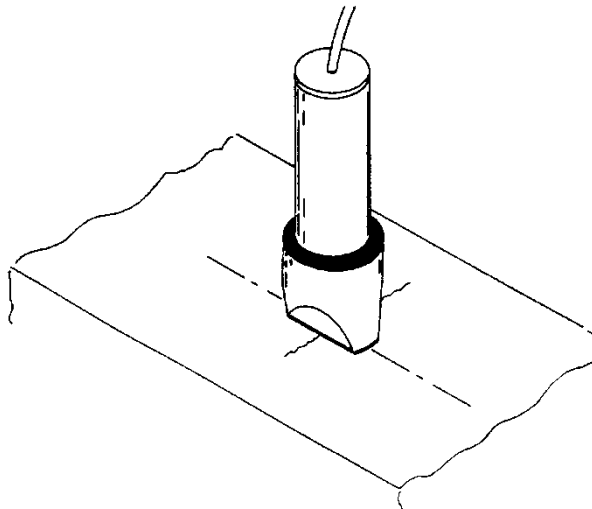

Figure 4 - Suggested measurement configuration
3. Place the Matprobe-2 on the specimen on a non cracked area and push down until the probe body is in contact with the specimen surface. Indication of a reliable contact is given when the LED indicator adjacent to the current adjust potentiometer on the monitor stops flashing. Additionally the user should wait until the monitor registers signal lock-in and until a steady reading on the front panel DVM is obtained. Note down the reading. Follow the same procedure for the cracked region, making sure that the voltage contact correctly straddles the crack. Perform the calculation of equation 1 (page 6) where L is 10mm. A suitable configuration for the probe and leads is shown in figure 4.